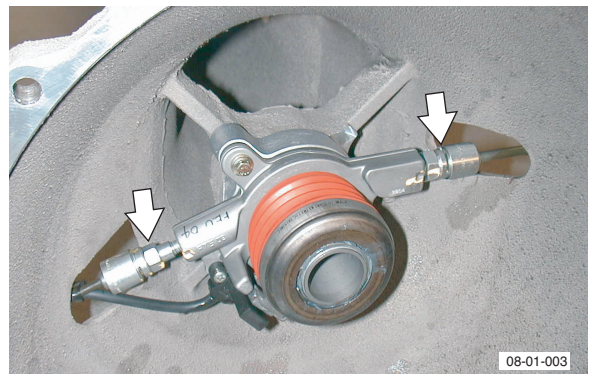

Fig. 1
- Loosen and remove pipe adaptors (x2) from slave cylinder (see Fig. 1).